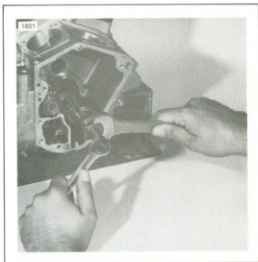

Figure 3-29. Pulling Pinion Gear
2. Remove two ignition sensor cover screws (6), cover (7) and gasket (8).
3. Remove sensor plate screws and lockwashers (9).
5. Remove bolt (11) and rotor (12).
7. Tap gearcase cover with wood or rawhide mallet to loosen and remove gear cover (16) and gearcase cover gasket (17).
8. Remove breather valve spacing washer (18) and breather gear (19).
9. Remove cam gear (20), spacing washer (21) and thrust washer (22).
10. Remove pinion gear shaft nut (23) which has a left-hand thread. Use PINION SHAFT NUT SOCKET, Part No. HD-94555-55A. Pull pinion gear (24) using PINION GEAR PULLER AND INSTALLER, Part No. HD-96830-51A, as shown in Figure 3-29. Tool has lefthand threads.